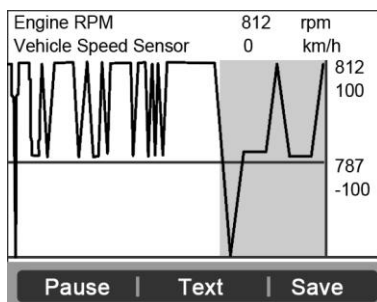

Figure 6.12
- If the “**Graphics**” on the bottom appears when a PID is highlighted, graphic information is available. Select **Graphics** to view graph. (Figure 6.12). PID name, current value, maximum and minimum values are displayed on the screen.